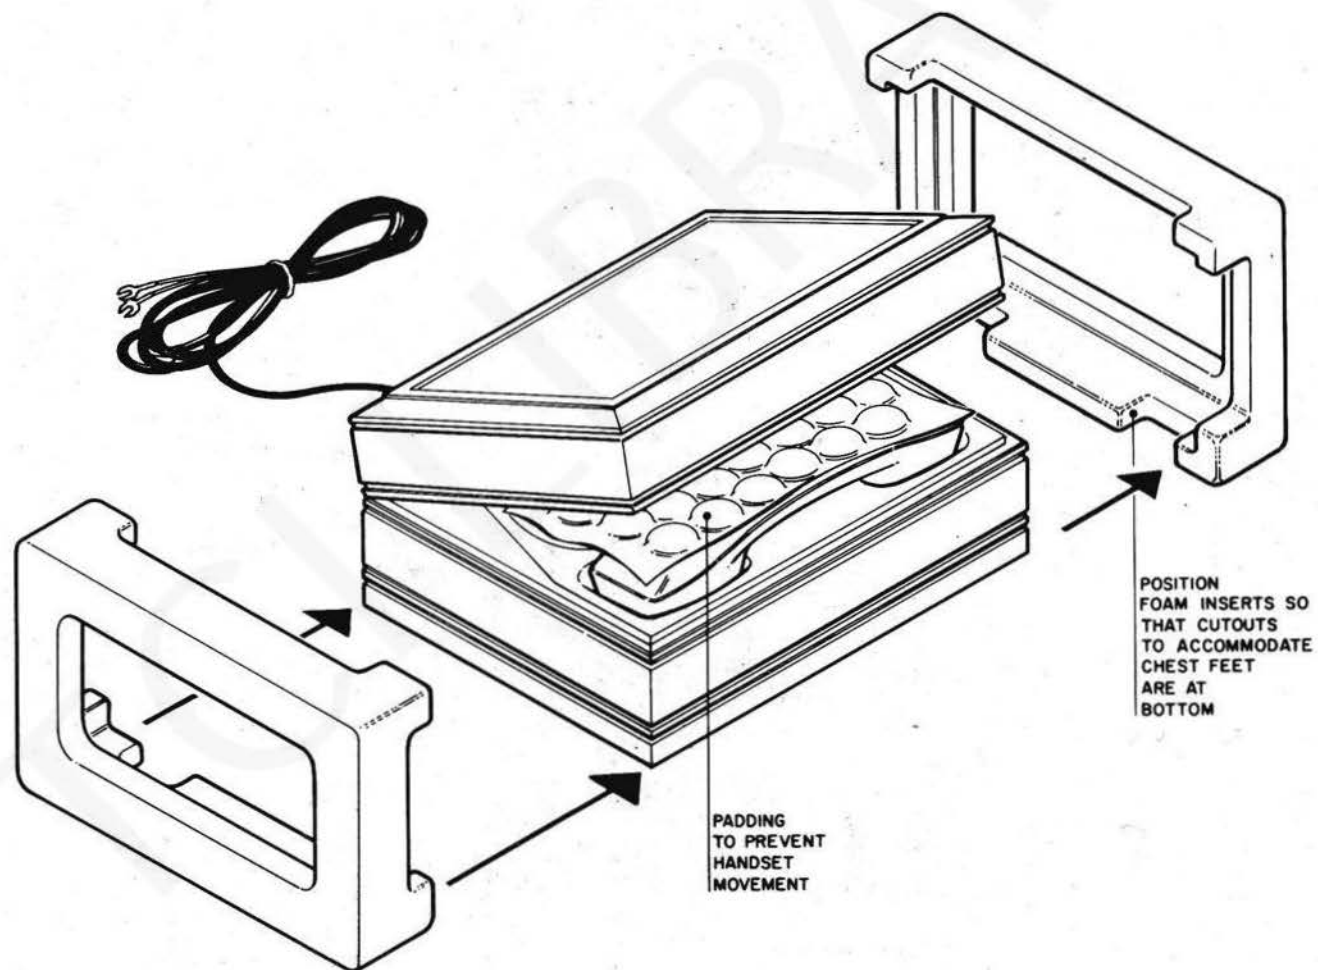

Fig. 18 – Chestphone Packing Instructions
- (iii) Gather the mounting cord as shown in Fig. 18, place the cord and the spade tips in a plastic bag and secure with an elastic band.